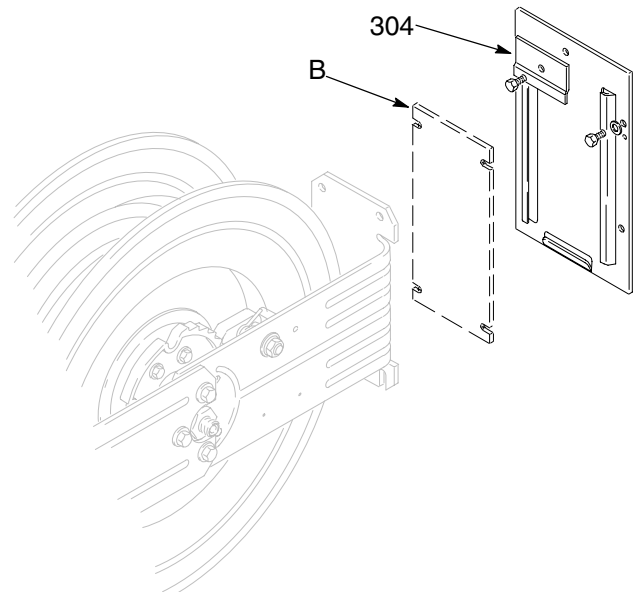

Fig. 8
1. Select the reel bank mounting location. Mount the reel to a wall, using the provided template (B) for laying out the holes you drill.
You *can* mount an accessory base plate (304) to the wall for easier removal of the hose reel for servicing. See Fig. 8.